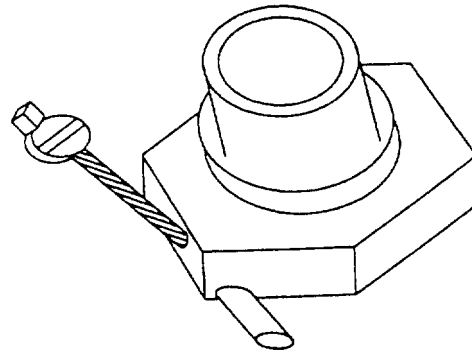
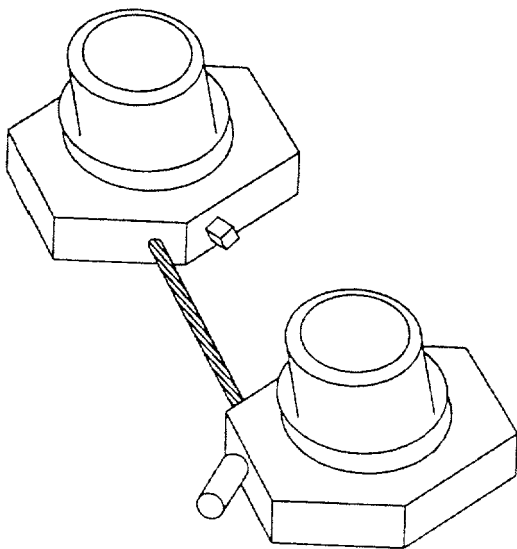
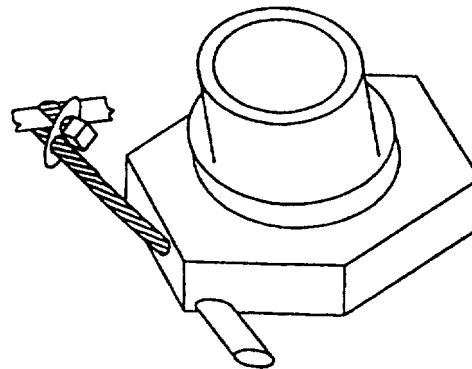

Figure 16. Single Jam Nut Receptacle Safety Cable Installation
Figure 15. Multiple Jam Nut Receptacle Safety Cable Installation.
Figure 17. Single Jam Nut Receptacle Self-Looping Safety Cable Installation
38. **JAM NUT RECEPTACLE.** Select the appropriate diameter safety cable using the guidelines in this manual. When installing safety cable on adjacent jam nut receptacles use the method shown in Figure 15. When installing safety cable on a single jam nut receptacle, safety cable may be installed from a fastener as shown in Figure 16, or it may require the use of a self looping safety cable as shown Figure 17.